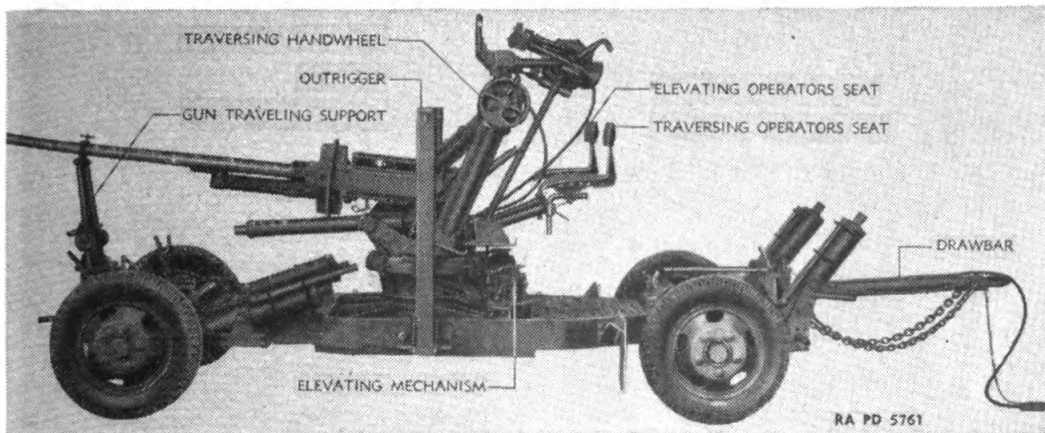

FIGURE 23.—37-mm AA gun carriage in traveling position.
**17. General.**—*a.* The 37-mm automatic gun M1A2 is mounted on an M3, M3E1, or M3A1 carriage (figs. 23 to 28). At the present time the M3A1 carriage is a standard model, M3 substitute standard, and M3E1 is classified as limited procurement type. These carriages are of the two-axle, four-wheel trailer type and are equipped with pneumatic tires and electric brakes on all wheels. There is a manually operated brake on each of the rear wheels. A drawbar and lunette connect the carriage to the prime mover.
**25. Traversing mechanism.**—*a. M3 and M3E1 carriages* (fig. 23).—The traversing mechanisms of these carriages are the upright posts to the left of the cradle. Two handwheels are provided for traversing the gun and cradle. By sliding the handwheels laterally along their axis either a fast or slow motion can be obtained. Complete  $360^{\circ}$  traverse is obtainable. Slow motion of the handwheel will traverse the gun  $3.75^{\circ}$  for one turn of the handwheel and the fast motion will traverse the gun  $11.25^{\circ}$  for one turn of the handwheel.